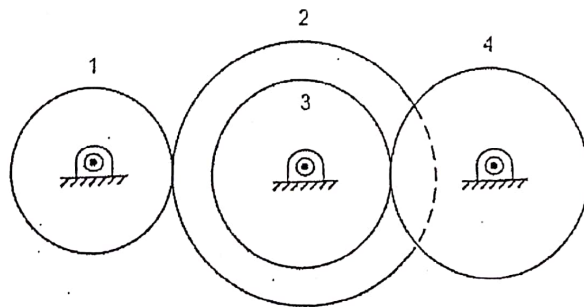

Figure 6
- (b) Consider 2 sets of gear trains consisting of 4 gears 1, 2, 3 and 4 as follows. The first set is a simple gear assembly, while the second has one pair of gears in compound assembly. The compound gear is shown in Figure 6 below. Let  $N_1, N_2, N_3, N_4$  be speed in rpm of gears 1, 2, 3, 4 resp. and  $t_1, t_2, t_3, t_4$  be number of teeth of respective gears 1, 2, 3, 4. Draw sketches of the simple gear assembly. Calculate the gear ratio for each assembly. What is the main difference between the results?